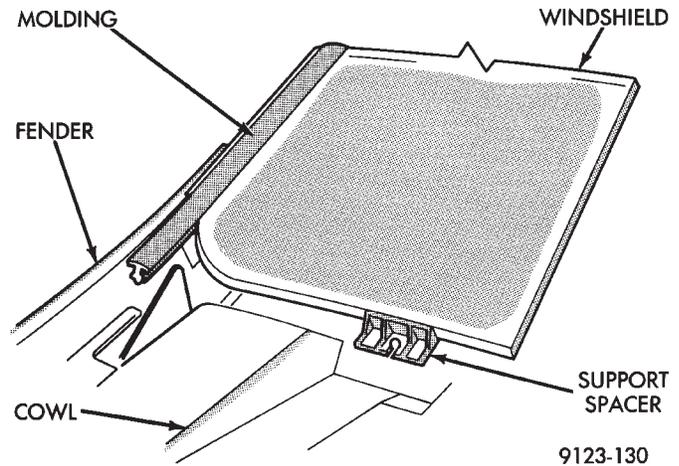

Fig. 1 Windshield Moldings
- (1) Remove inside rear view mirror.
- (2) Remove cowl cover. Refer to Cowl Cover Removal paragraph in this group.
- (3) Remove windshield moldings (Fig. 1). Pull outward on molding at the bottom of A-pillars using pliers.